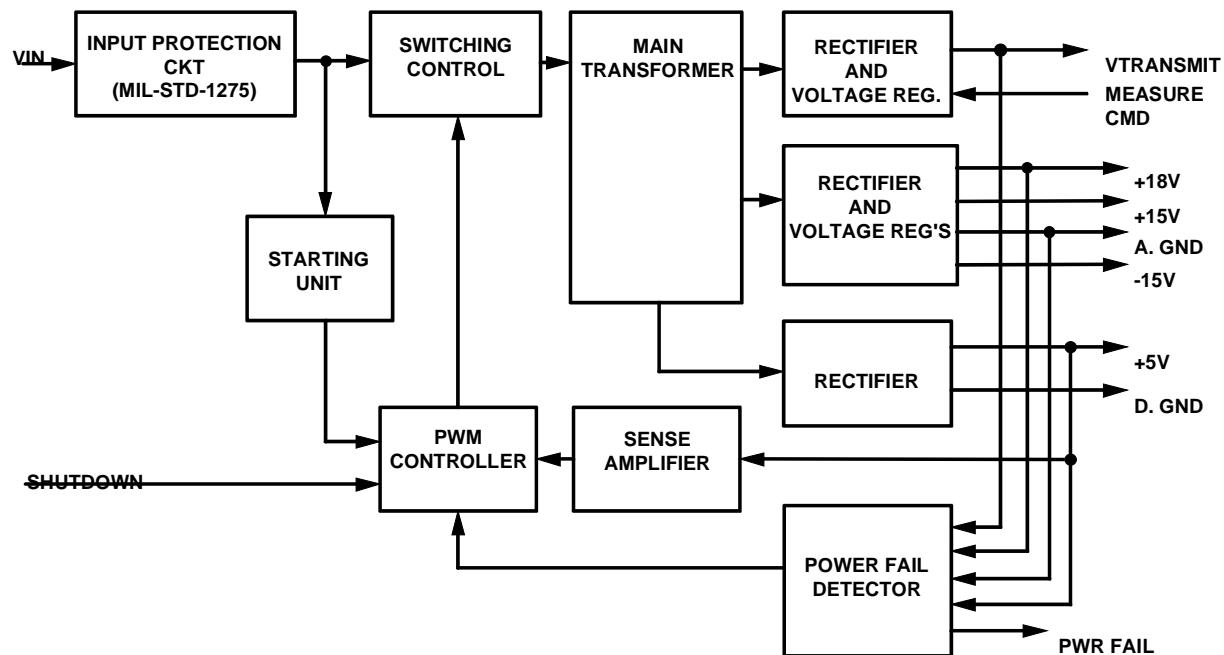

Figure 1-5. Power Supply Module Simplified Block Diagram
1.19.4 Power Supply Module. For the following description, refer to Figure 1-5. The power supply generates +18, +5, +15 and -15 , and predetermined 9-11 VDC operating voltages for the transceiver internal circuitry. The topology of the power supply is a current mode, forward converter with input and output coupling. Switching frequency is 400 kHz. The RF signal transmission is controlled by the MVP through the. MEASURE CMD (on/off) signal.